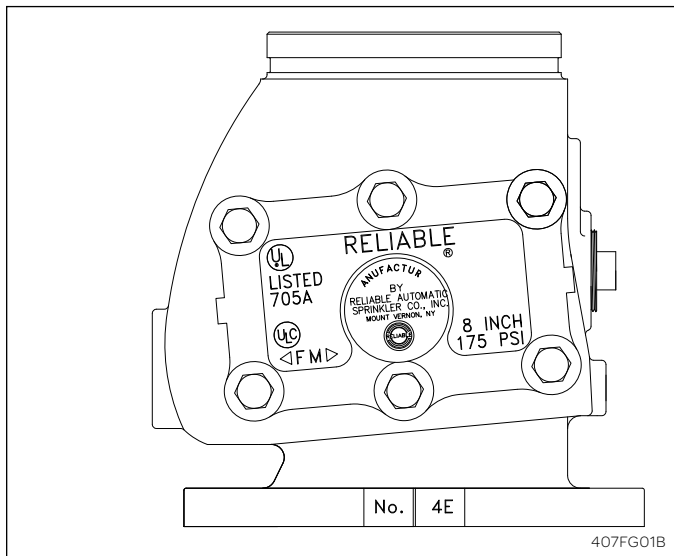

Fig. 1
- b. US Standard Flanged Inlet and Grooved Outlet (Fig. 1):